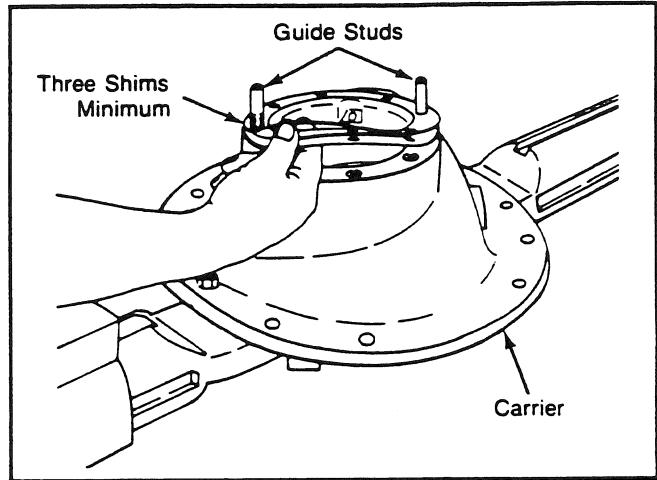

Fig. 48
2. Install the shim pack between the bearing cage and carrier. Align the oil slots in the shims with the oil slots in the bearing cage and carrier. Use guide studs to help align the shims (see Fig. 48). Use a